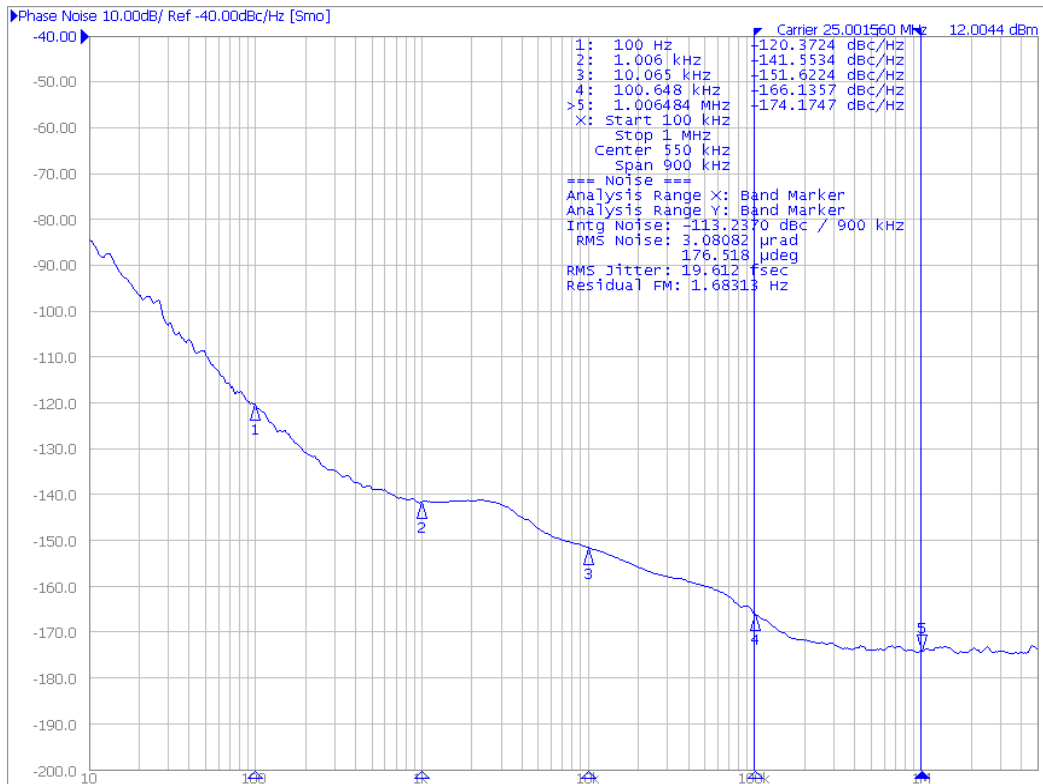

Figure 5. Typical Phase Noise Plot of the NB3H83905C Operating at 25 MHz $V_{CC} = V_{CCO} = 3.3$ V
4. Parallel terminated 50 Ω to V_{DDO}/2 (see Figure 5).